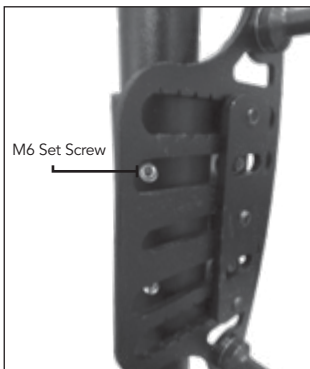

Fig. 4: MultiClamp/Set Screws
5. The Multi-clamp cane mounting hardware can be installed where a smaller size tube is inserted into a larger tube (ie 3/4"–19mm inside a 1"–25mm tube). First tighten clamp around larger tube, then tighten set screw using a 5/32" Allen wrench until they touch the smaller diameter tube, holding the tube straight, then tighten clamp around smaller tube. See *Fig. 4* below.